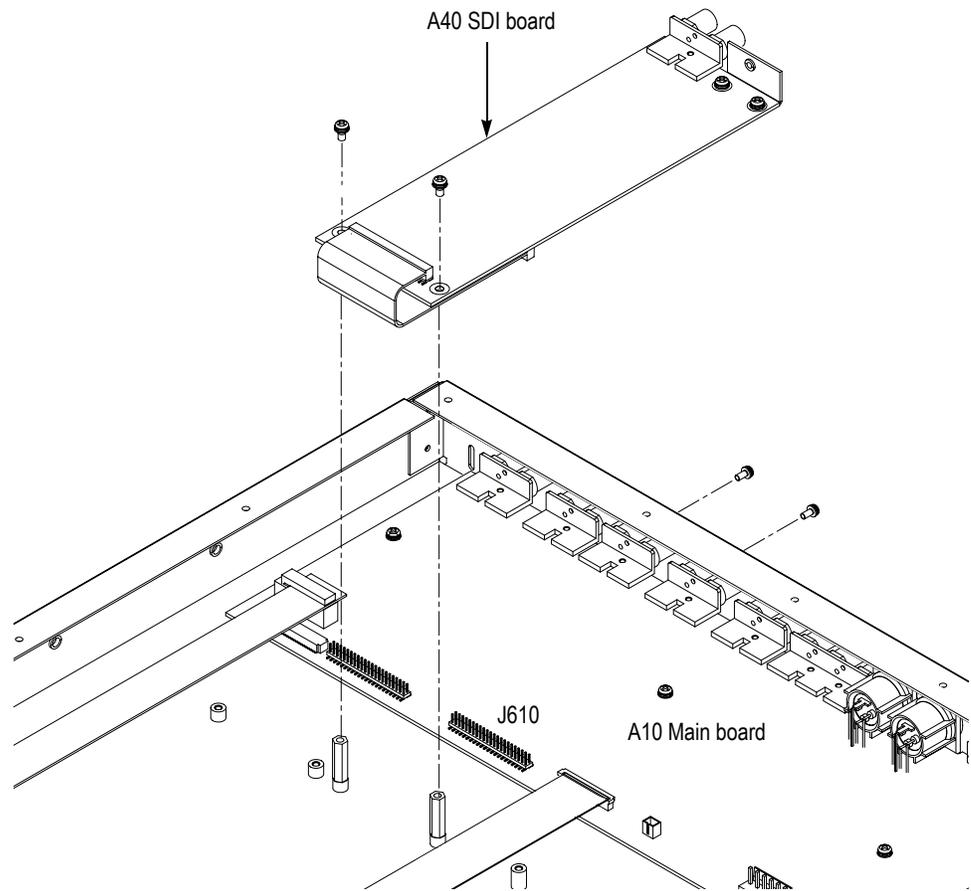

Figure 5: Removing the A40 SDI board
5. Use a screwdriver with #1 Phillips tip to remove the two screws securing the A40 SDI board to the rear of the chassis. See Figure 5.
6. Use a screwdriver with #2 Phillips tip to remove the two screws securing the A40 SDI board to the bottom of the chassis. See Figure 5.